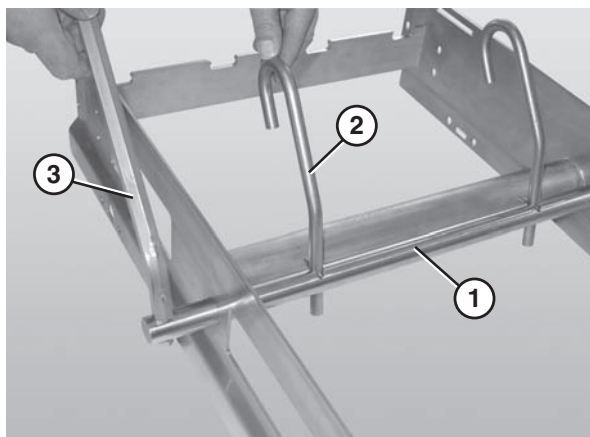

Figure 28
1. Slide the belt lift pivot bar (**Figure 28, item 1**) through the designated holes in the frame. The pins on the pivot bar should be located to the inside of the frame side rails.
2. Attach the lifter bars (**Figure 28, item 2**) to the belt lift pivot bar (**Figure 28, item 1**). Make sure the hooked ends of the lifter bars are facing down when resting against the frame.
3. Attach the lifter handle (**Figure 28, item 3**) to the belt lift pivot rod.